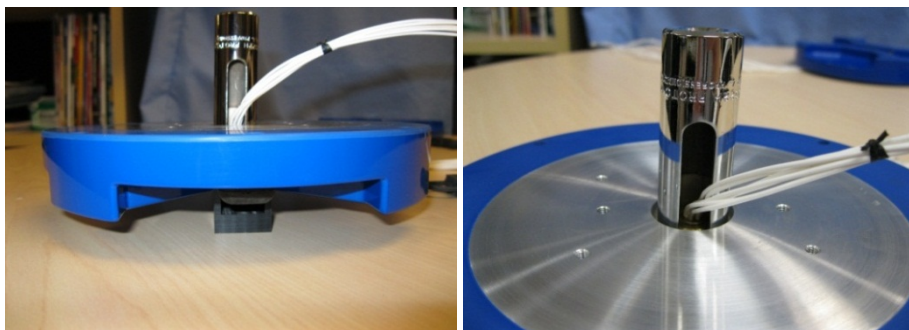

Figure 66. Lock Nut Removal Socket
11. Flip the End-Cap assembly over and insert the slotted socket onto the lock nut. Fit the cable wires into the socket's clearance slot (see Figure 66. Lock Nut Removal Socket).